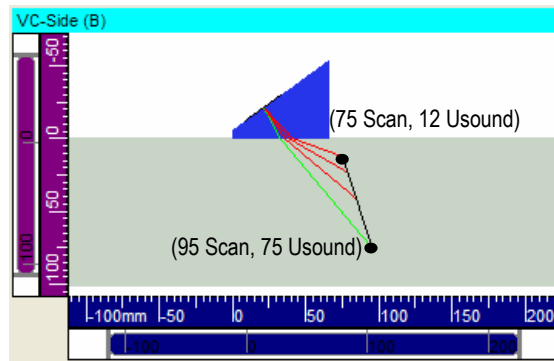

Figure 4-27 Focal plane focalization
- **Focal plane:** all beams are focused on a user-defined focal plane (see Figure 4-27 on page 59); this option is not applicable for depth laws, DDF laws, and for pitch-and-catch configurations.
- **Focal plane:** the **Offset** and **Depth** boxes are used to set the two points (in scan or index, and in depth) defining the focal plane (see Figure 4-27 on page 59).